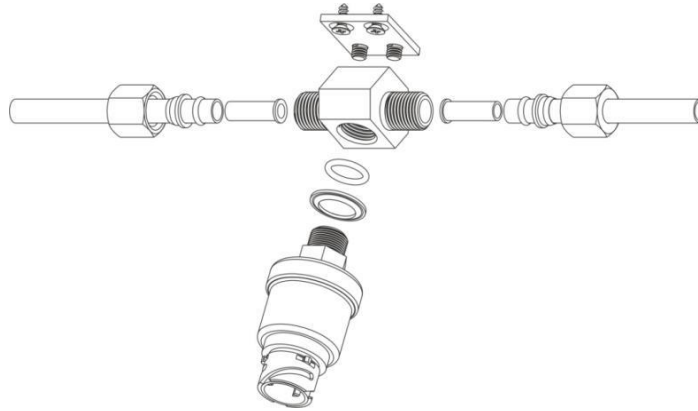

Figure 30 — GNOM DDE mounting scheme 3
3) According to mounting **scheme 3** GNOM DDE is mounted into the **cut of $\varnothing=8$ mm suspension supply pipeline**. GNOM MK DDE2 mounting kit is used (see figure 30).